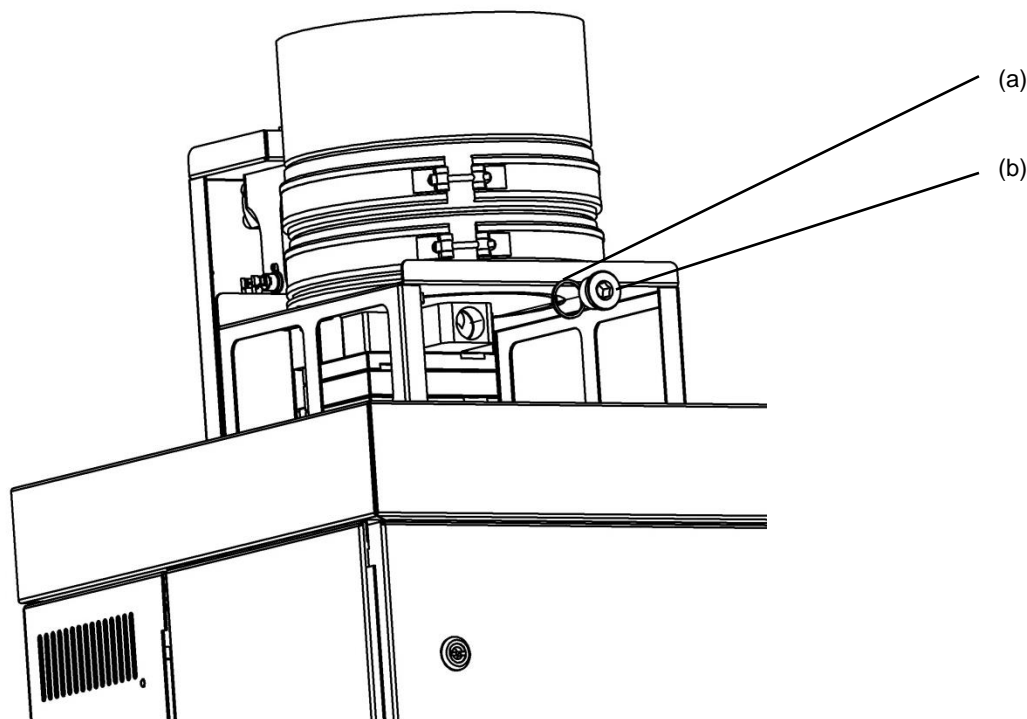

Fig. 6-11 Reservoir Drain Plug
- Position a suitable heat resistant container under the drain plug (b) figure 6-11 on front side of reservoir .